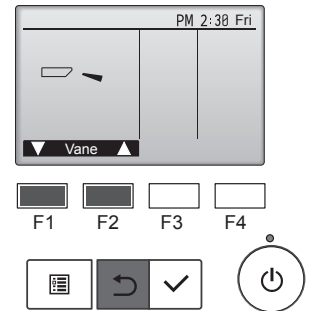

Fig. 8-4
- (2) Press the [SELECT] button to display the Vane operation screen, and then press the [F1] and [F2] buttons to check the auto vane. (Fig. 8-4)